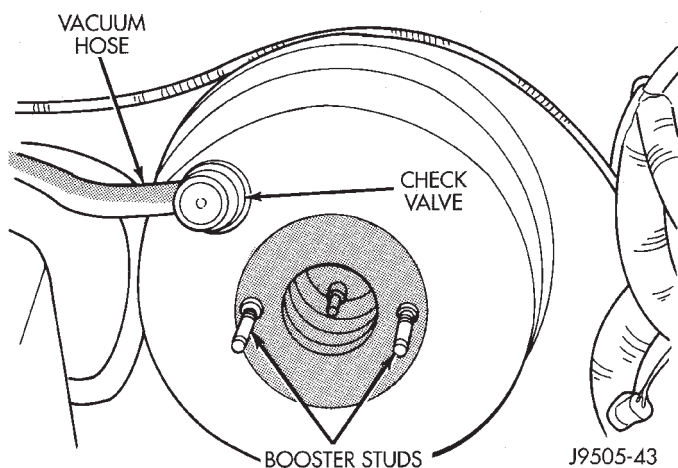

Fig. 24 Booster Check Valve And Hose
- (1) Remove air filter housing.
- (2) Remove master cylinder, combination valve, and HCU.
- (3) Disconnect vacuum hose at booster check valve (Fig. 24).